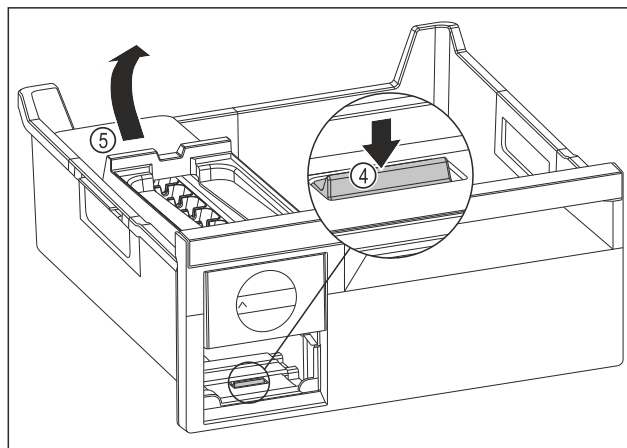

Fig. 96
- ▶ Removing the EasyTwist-Ice body: Use your finger to push the tab Fig. 96 (4) down and use your other hand to lift the EasyTwist-Ice body Fig. 96 (5) from behind at the same time.